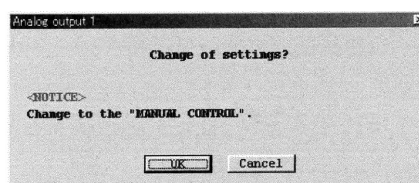

Fig.29
- ④ After filling in all the fields required, click on "OK" button. A message box as shown in Fig. 29 then appears.